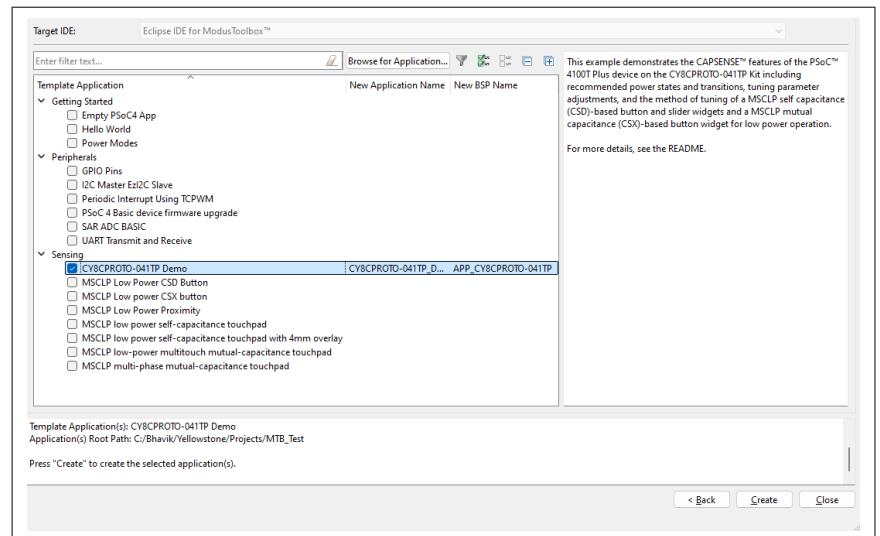

Figure 15 Creating a new application: Select Application
3. Select the required application and click **Create**, as shown in Figure 15. The right pane will display the code example description and provide a link to view the README file on GitHub